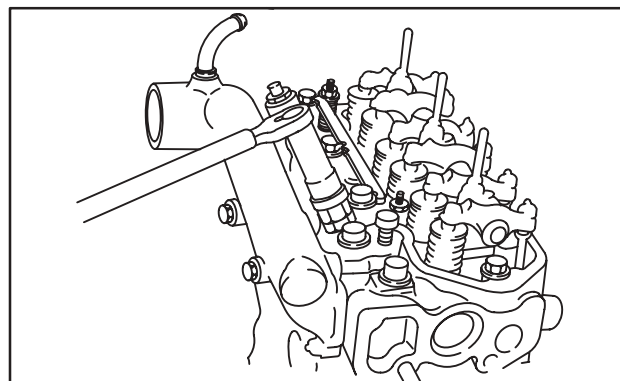

Fig. 37 – Install Glow Plugs And Injectors
6. Install injectors, fuel lines and glow plugs, Fig. 37.